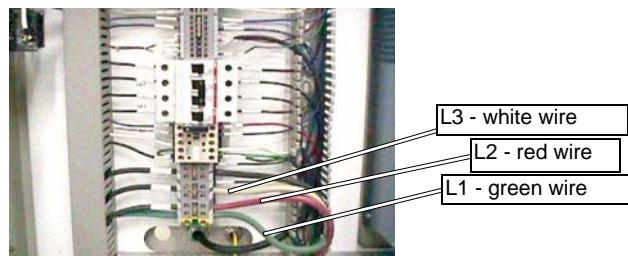

Figure 8-5: AC Power Legs L1, L2, and L3.
6. Check that 460 VAC $\pm 10\%$ (380 or 415 VAC $\pm 10\%$ for international) is present on L1, L2, and L3 at the bottom of the DIN rail inside the pump control enclosure (refer to Figure 8-5).
3. Verify that 460 VAC $\pm 10\%$ (380 or 415 VAC $\pm 10\%$ International) is present across terminals L1, L2, and L3 located at the bottom of the DIN Rail inside the electrical enclosure of the pump (Figure 8-5). If no power is present across these terminals, see "No AC Power at Pump Unit" on page 8-6.